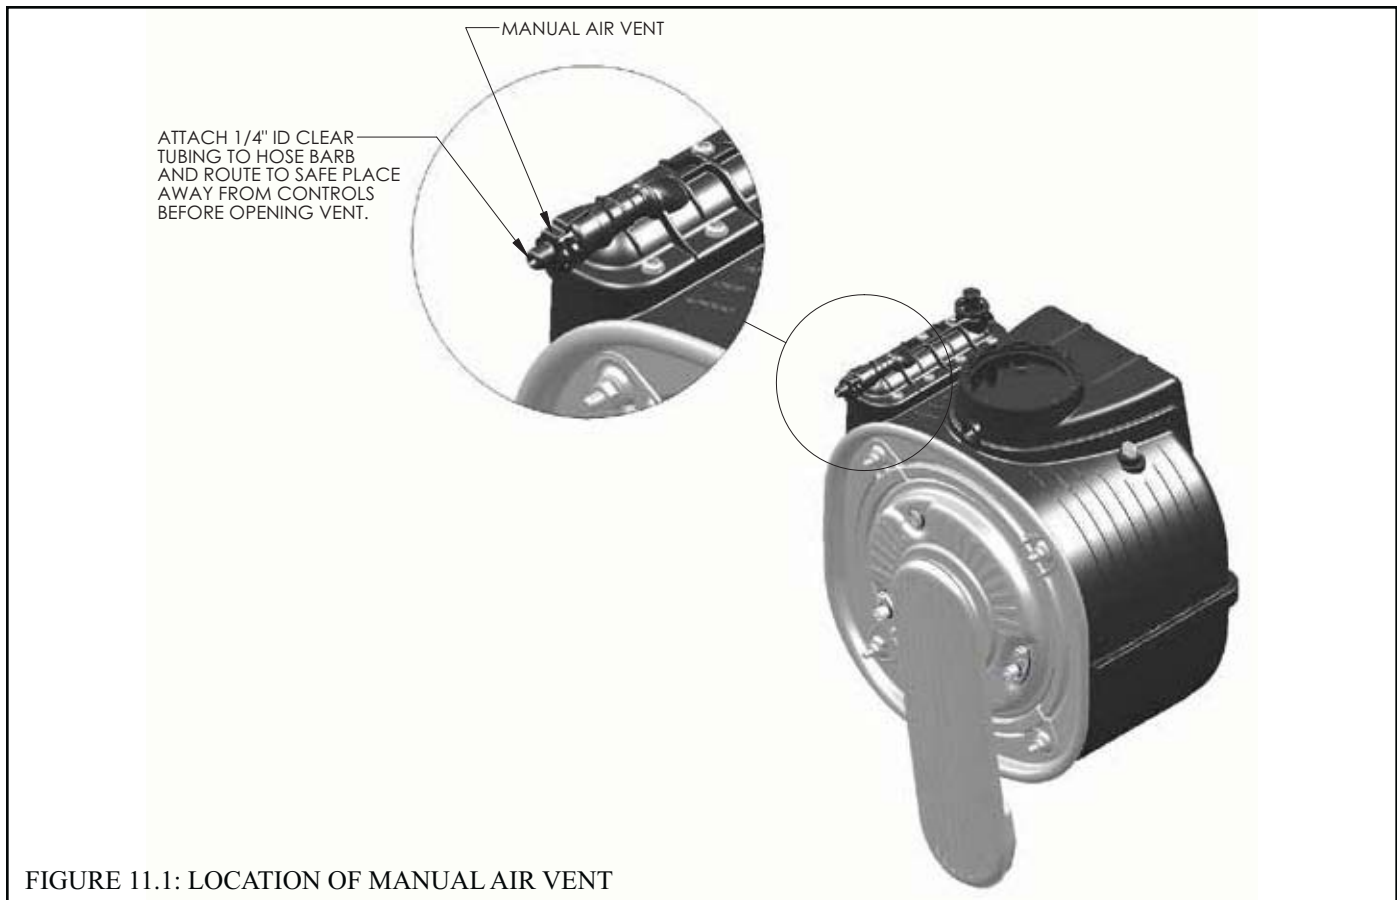

FIGURE 11.1: LOCATION OF MANUAL AIR VENT
- 6) Bleed air from the heat exchanger using the manual air vent in the top left side of the heat exchanger (Figure 11.1). To do this install a piece of ¼" ID clear tubing over the hose barb and route the tubing to a location where water will not damage controls or nearby construction. Turn vent counter clockwise and allow heat exchanger to vent until a steady stream of water is observed. Close vent and remove hose.